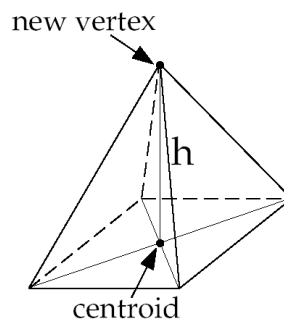

Figure 9.3.4: Pyramid Vertex Placed Above the Centroid
**Centroid** specifies that the new vertex of the pyramid should always be placed just above the centroid of the quadrilateral base of the pyramid. See Figure 9.3.4.